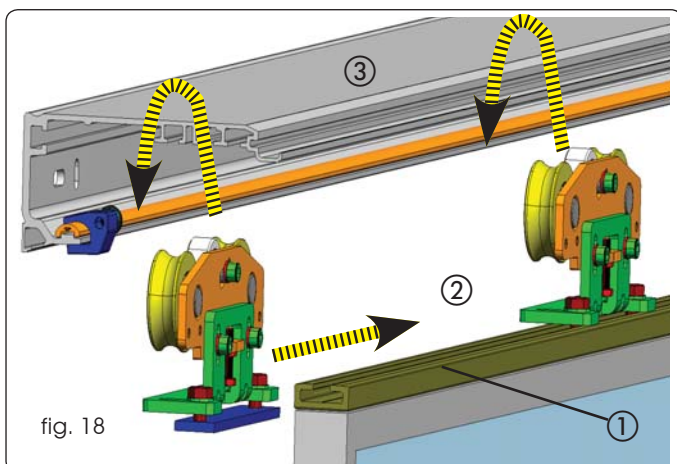

fig. 18
2. Place two carriages on each leaf making use of the supplied plates and screws; then mount the leaf and carriage unit on the sliding profile, as shown in fig. 18 ① ② ③.